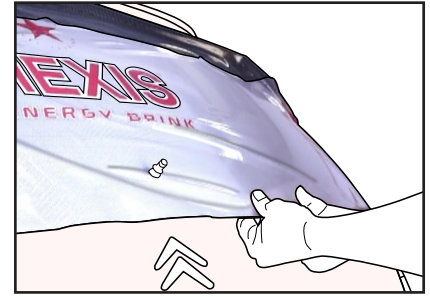

Figure 15
- › Pull on the bottom and then on the top of the film to reduce the tunnels that have formed during the previous step. (FIG. 15)